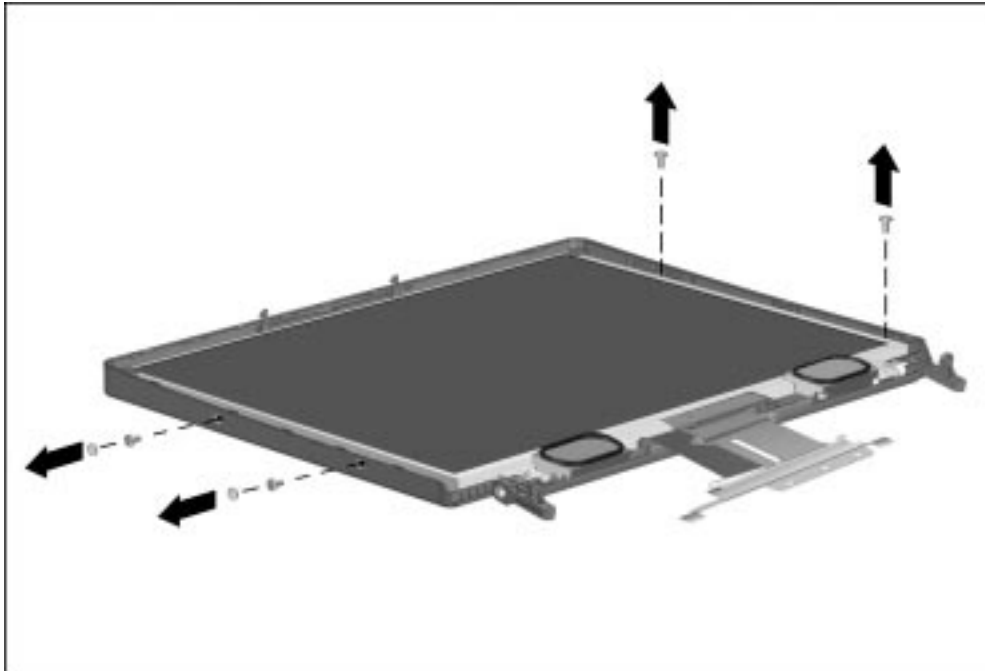

Figure 5-62. Removing the Display Panel Screws on the 14.1-inch Display
9. Remove the two screw covers on the left side of the display bezel and the four screws that secure the display panel to the display enclosure (14.1-inch display only, Figure 5-62).